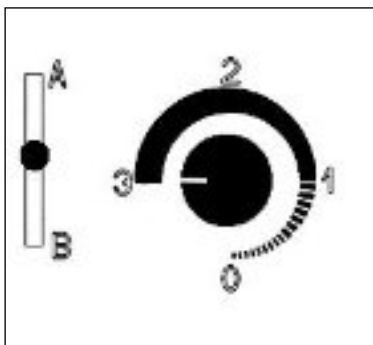

Fig. 11. Lighting and reloading
1. Be sure the ash drawer is closed and secured. Slide the Burn Type Lever to the centre position (See the setting on fig. 11).
2. Open the Burn Rate Knob all the way by turning to the left. This knob may be turned manually or by pressing "ON/HI" on the remote control (optional). (See the setting on Fig. 11)